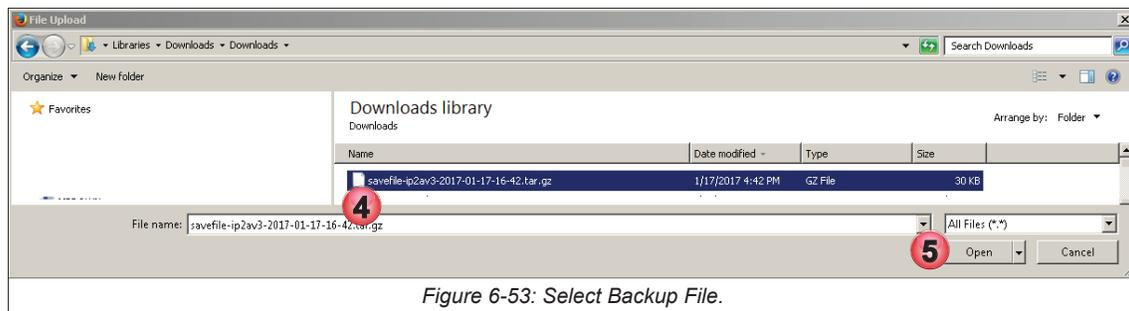

Figure 6-53: Select Backup File.
- Find the configuration file that was saved earlier and select it from the file explorer window, Figure 6-53.